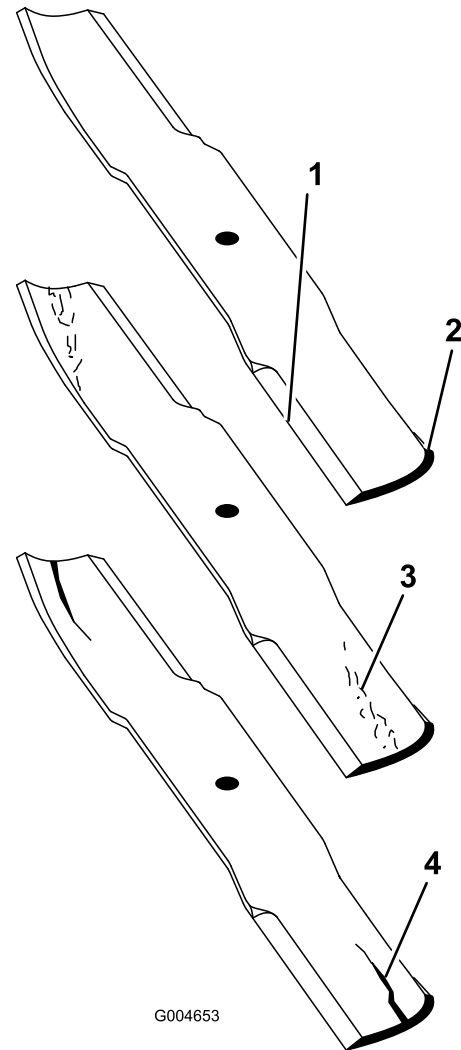

Figure 79
3. Examine the cutting ends of the blade carefully, especially where the flat and curved parts of the blade meet (Figure 79).
**Note:** Since sand and abrasive material can wear away the metal that connects the flat and curved parts of the blade, check the blade before using the mower. If you notice wear (Figure 79), replace the blade.